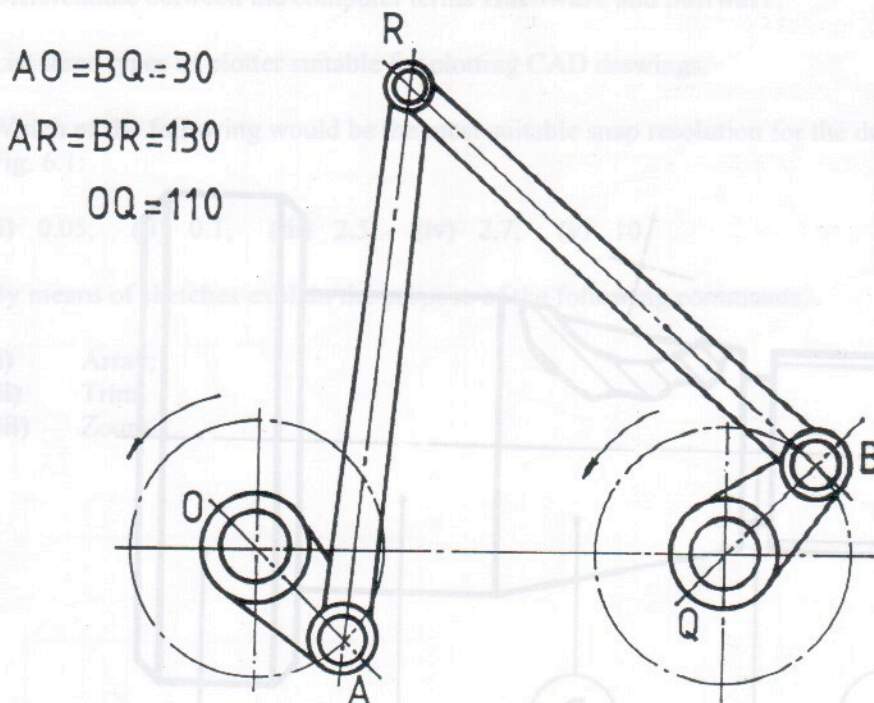

FIG.3
- (b) Fig. 3 shows a pin jointed mechanism. The cranks AO and BQ revolve about O and Q at the same speed and in the same direction.